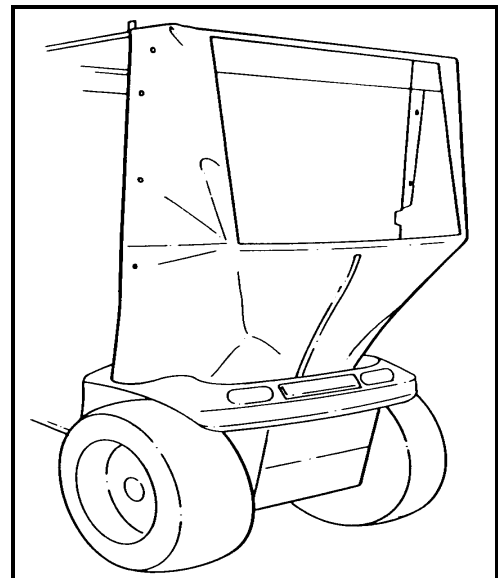

FIGURE 9
- H. Working on the left side of the machine. Place a 5/16" fender washer on the bolt that was removed in step 8A. Insert the bolt through the hole in the vinyl at reference (D) and into the hole from which it came. Add the nut and tighten.
STEP 9; SEE FIGURE 9: